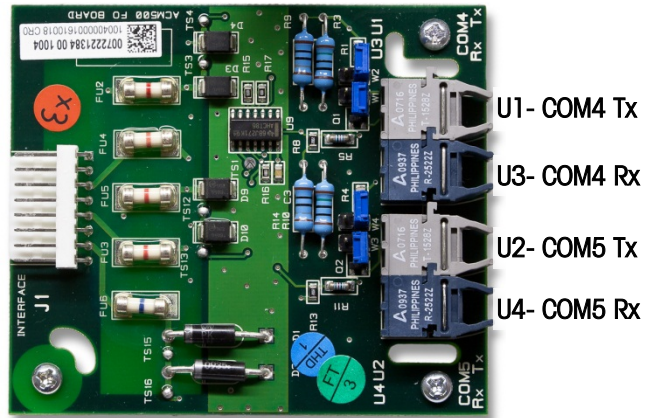
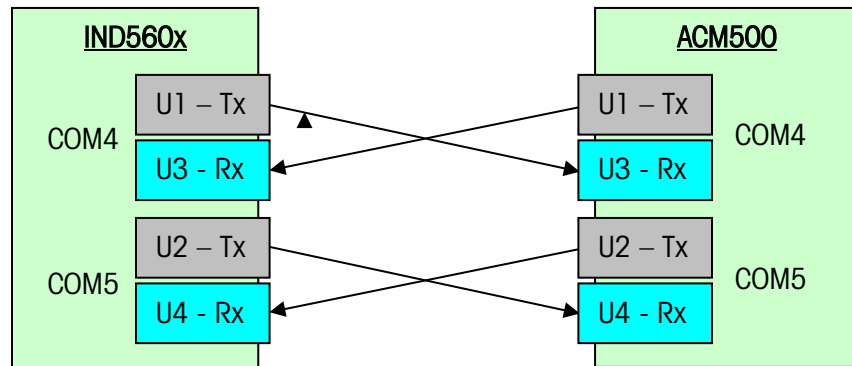

Figure 3-9: Fiber Optic Interface Board
Figure 3-10: Fiber Optic Cable Connection Diagram
3. When connecting fiber optic cables to COM4, determine which two fiber optic cables come from the COM4 port of the IND560x. Plug the fiber optic cable from the IND560x COM4 transmitter (**U1**) into the ACM500 COM4 receiver (**U3**) and the cable from the IND560x COM4 receiver (**U3**) into the ACM500 COM4 transmitter (**U1**). Refer to Figure 3-9 to help identify the transmitters and receivers on the ACM500 fiber optic interface board. Figure 3-10 shows correct wiring between the IND560x and the ACM500.
- When installing a connection to COM5, determine which two fiber optic cables come from the COM5 port of the IND560x. Plug the fiber optic cable from the IND560x COM5 transmitter (**U2**) into the ACM500 COM5 receiver (**U4**) and the cable from the IND560x COM5 receiver (**U4**) into the ACM500 COM4 transmitter (**U2**). Figure 3-10 shows correct wiring between the IND560x and the ACM500.